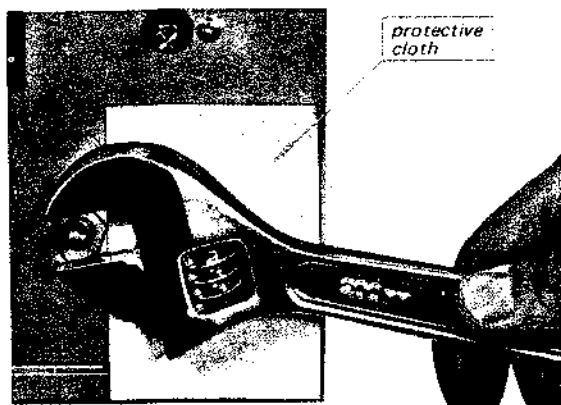
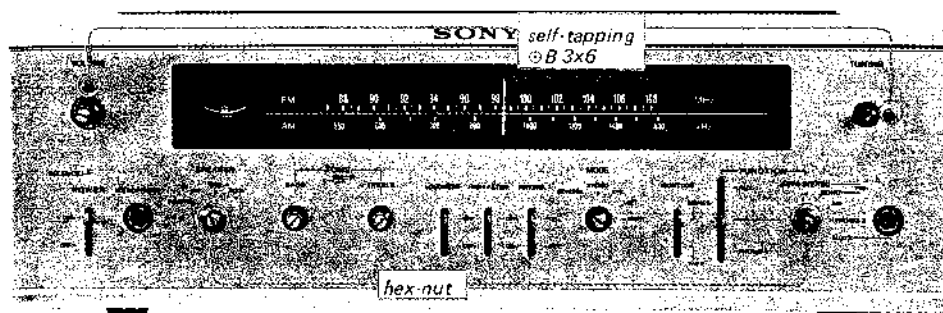

Fig. 2-4. Hex nut removal
Fig. 2-3. Front panel removal
3. Remove the two self-tapping screws ( $\text{#B } 3 \times 6$ ) and two hex-nuts securing the front panel to the front sub-chassis as shown in Fig. 2-3. Place a piece of cardboard or cloth between the wrench and front panel to avoid marring the panel as shown in Fig. 2-4. Now the front panel is free for servicing.